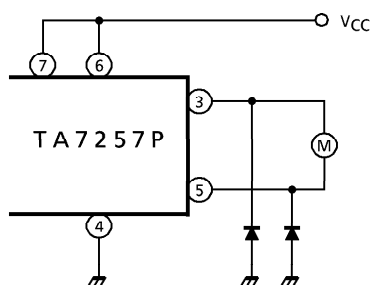

Fig.3
(3) Additional diode
- i) If the braking operation is so loose, connect a additional diode between each output to GND, (See Fig.3)